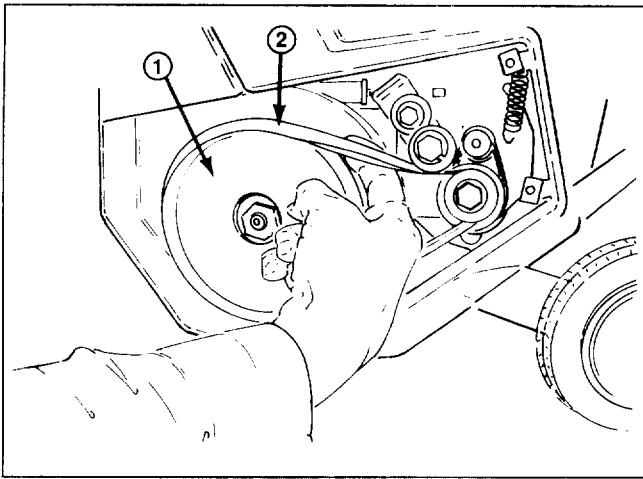

Figure 15
3. Rotate rotor with left hand while walking (sliding) belt off large pulley with right hand (Fig. 15).
2. Remove large belt by slowly walking (sliding) it off small pulley (Fig. 15). Refer to steps 2-3 in Large Belt Replacement section.